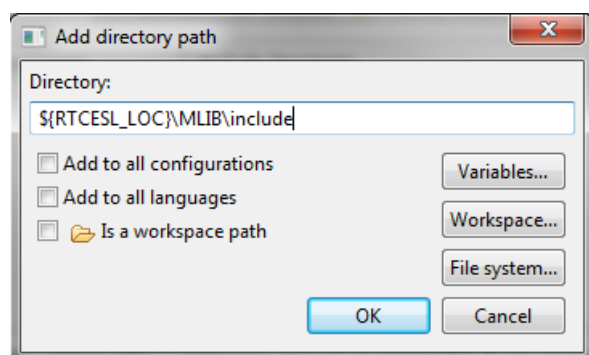

Figure 1-25. Library include path addition
16. Click the Add... button on the right, and a dialog appears. See Figure 1-25.